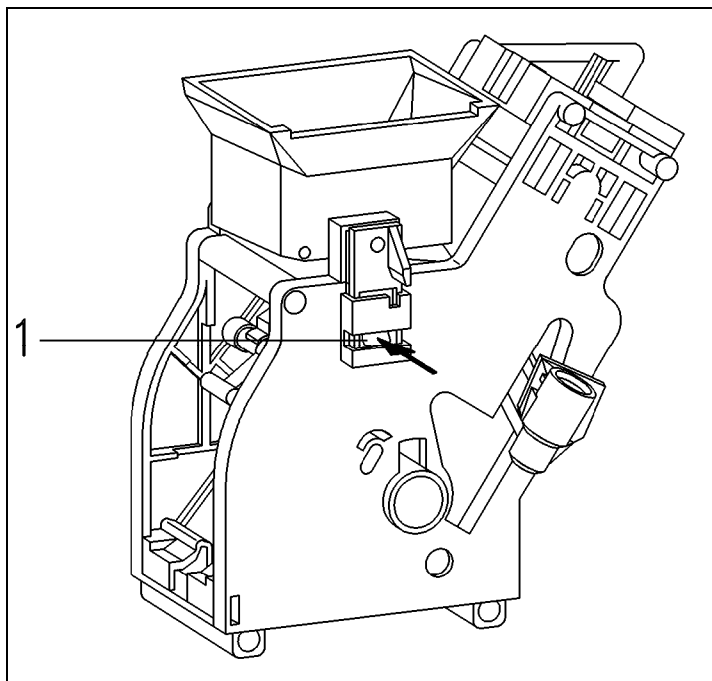

Figure 5-30: Brew Unit Funnel Lock
2. Press the funnel locking tab (Figure 5-30, Item 1), so that the funnel is no longer raised.